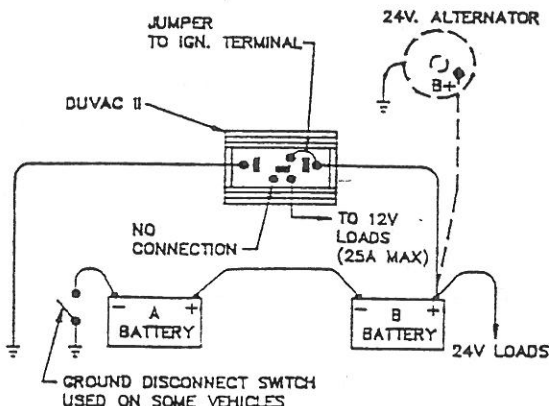

FIGURE 2
2. Connect the ground terminal directly to the 12 volt "A" battery ground. **CAUTION:** Do not connect to chassis ground - improper operation may result. *Note exception in Figure 2.
CAUTION: DUVAC II SHOULD ALWAYS BE GROUNDING DIRECTLY TO NEGATIVE TERMINAL OF "A" BATTERY, AHEAD OF ANY GROUND DISCONNECT SWITCHES, NOT TO CHASSIS GROUND. *NOTE EXCEPTION IN FIGURE 2.